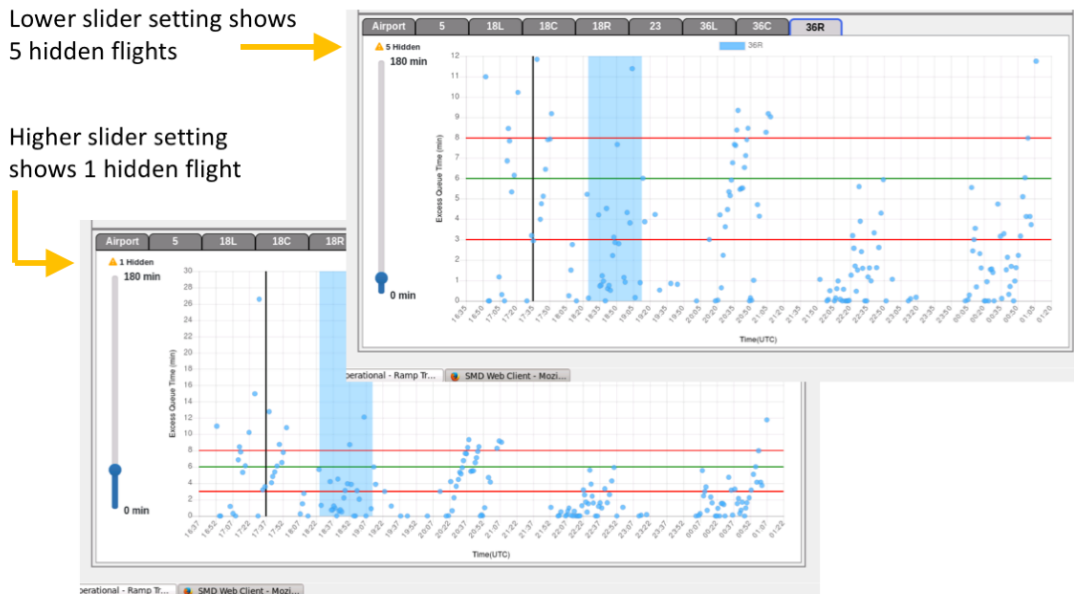

Figure 20. Slider changes maximum y-axis value shown on runway scatter plot.
Step 2: The scatter plot will update to reflect the new maximum time selected (see Figure 20).